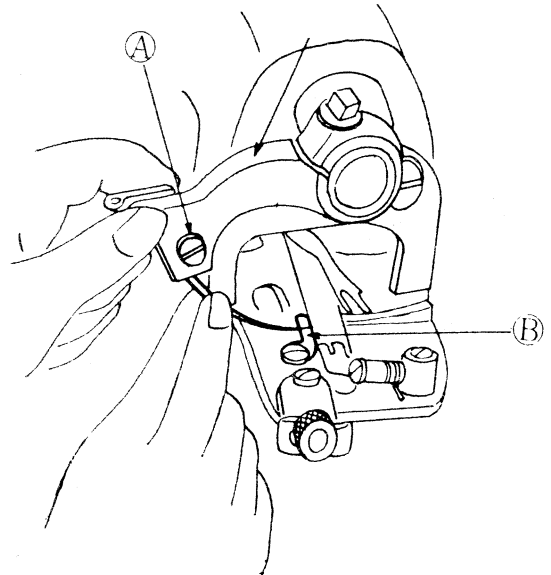

Fig. 4
Grasp the Hand Wheel and turn away from operator until the Needle Lever is at its highest position on its left hand stroke. Loosen Needle Clamp Screw (A), remove old needle and insert new needle as far as it will go into the needle clamp groove. Tighten Clamp Screw. (See Fig. 4) The needle point must slightly touch the needle guide. (B).